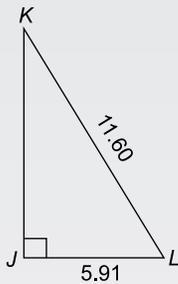

Figure RT1.1
- In triangle JKL in Figure RT1.1, find